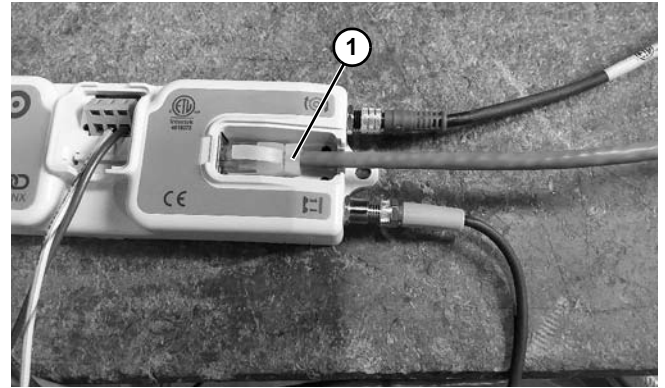

Figure 17
15. Connect Ethernet cable (Figure 17, item 1) from main logic system to first motor controller.